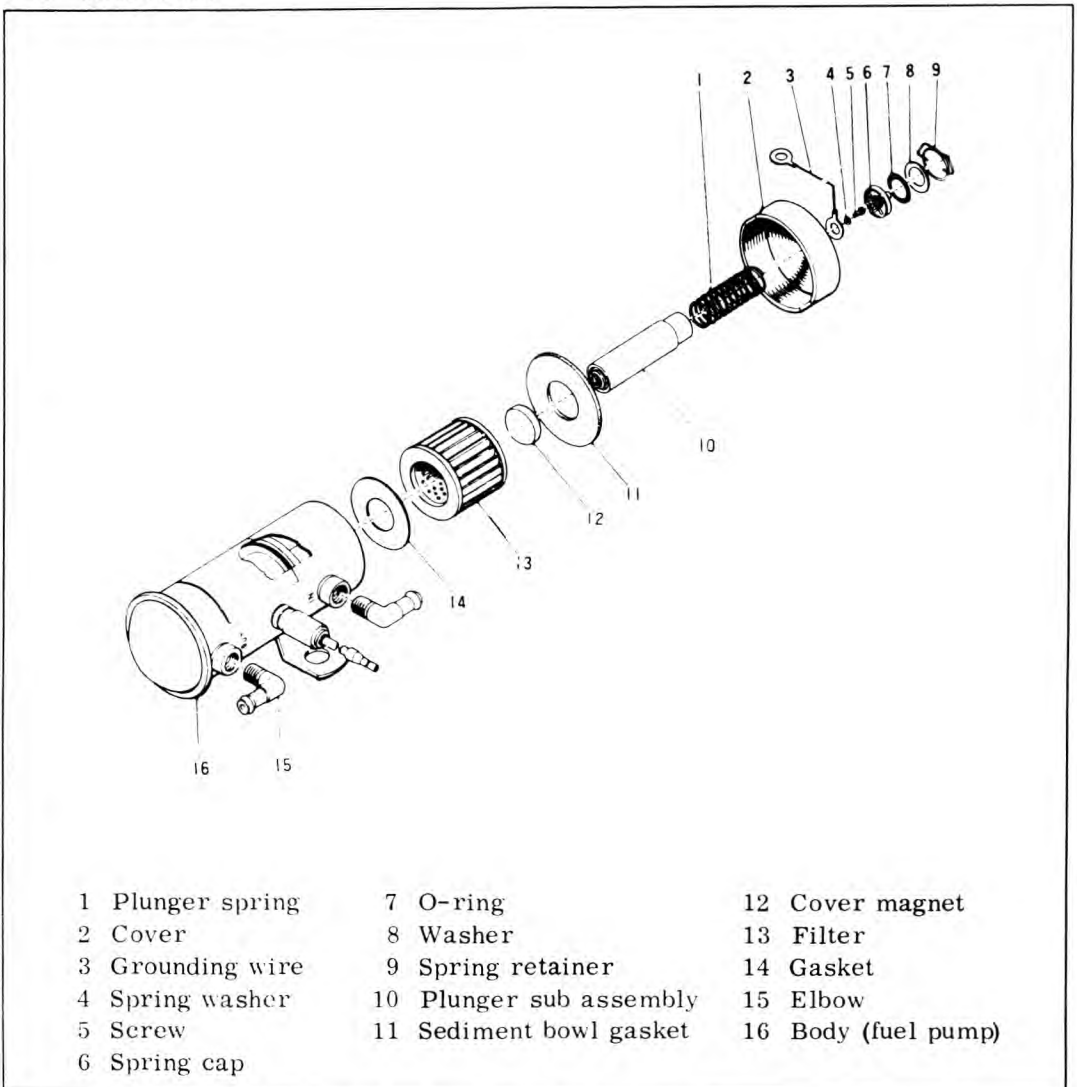

Fig. 9-9 Fuel pump construction parts
- (b) Internal parts are disassembled as shown in Fig. 9-9.